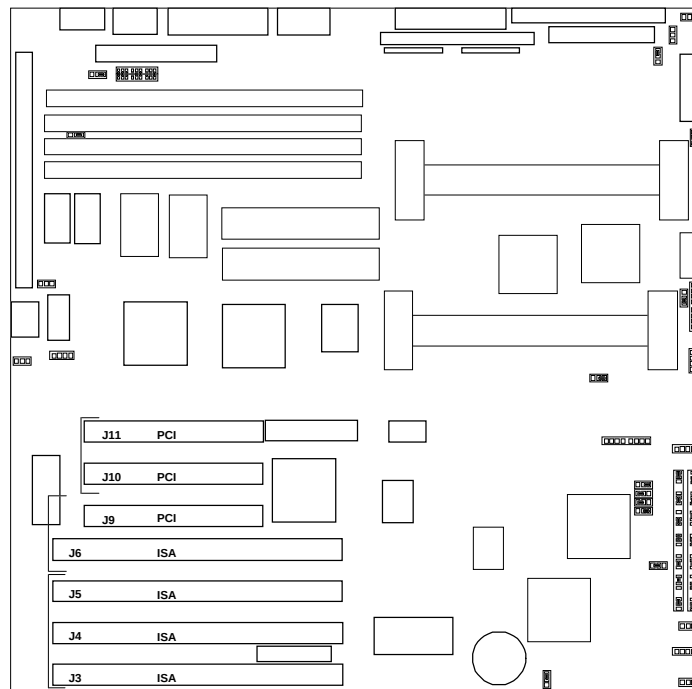

Figure 4-6 PCI and ISA Slot Locations
Refer to Figure 4-6 while performing the following procedures. To remove an Pentium II processor:
This section describes how to install and remove ISA and PCI option boards. The system board has three dedicated ISA bus expansion slots, two dedicated PCI bus expansion slots, and one shared PCI/ISA bus expansion slot (see Figure 4-6). You can install one ISA board or one PCI board in the shared slot, not both.
- ISA bus priority is slot J3 - J6, slot J3 having the highest priority. ISA slot J3 is the bottom option board slot on the system board. See Figure 4-6 for ISA slot numbers.
- PCI bus priority is slot J11 - J9, slot J11 having the highest priority. PCI slot J11 is the top PCI option board slot on the system board. See Figure 4-6 for PCI slot numbers.